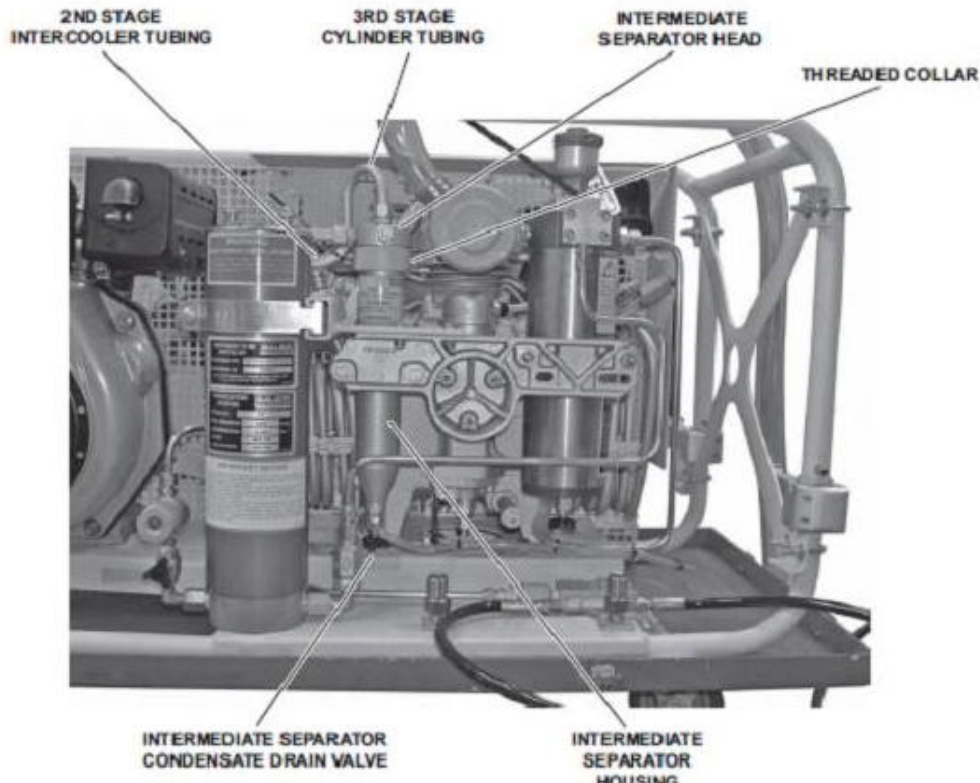

Figure 551-8ST\_1004\_48 (Air Filter Intake Assembly)
(6) Mark the air filter at the 12 o'clock position for reference during installation.
(7) Remove the air filter and o-ring from the filter housing.
(8) Discard the o-ring.
(9) Clean the filter with a brush and inspect it for clogging. If the filter is clogged, replace it.
(10) Install the filter and a new o-ring in the housing (rotating it 90 degrees from the position marked in step c if cleaned).
(11) Install the spring and new o-ring in the air filter cover.
(12) Install the filter cover on the housing.
(13) Remove the lockouts and tagouts.
(14) Operate the E-BAC/SS IAW paragraph 2.3.3 and check for proper operation.
(15) Return the E-BAC/SS to the desired readiness condition. (Figure 551-8ST\_1004\_48)
i. Service and inspection of the intermediate separator assembly annually or at 1,000 hours. (Figure 551-8ST-1004\_49)